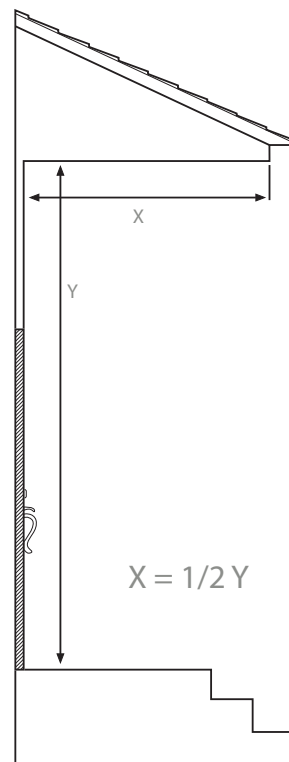

Figure 1.
6. For best performance and to meet the standard Simpson warranty, any exterior door should be installed under an overhang or with sufficient protection. Adequate overhang depends on typical weather conditions of the area where the door is installed, but at the minimum means an overhang projecting a distance from the structure equal to one half the distance between the bottom of the door and the bottom of the overhang (see figure 1).